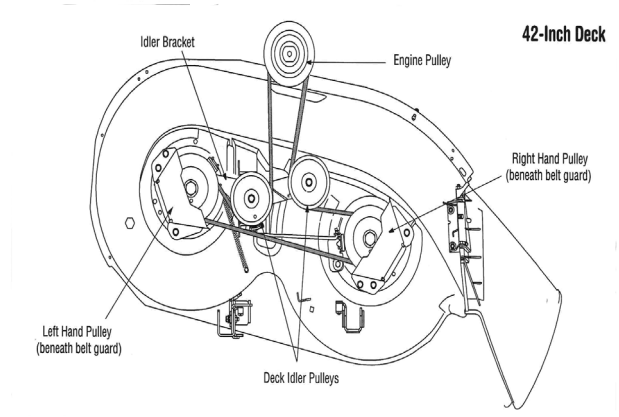

Figure 3.5
- 3.5. The 42" deck has a fixed idler pulley to provide better wrap on the left spindle pulley, and a tensioner pulley to tighten the belt. See Figure 3.5.